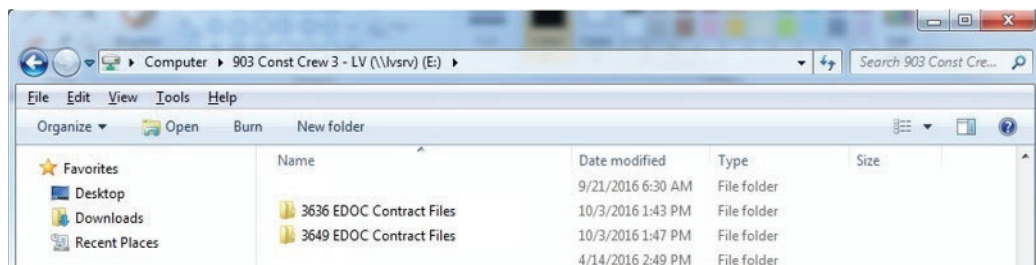

Figure 2-14: Rename EDOC Files Directory(ies)
13. Rename the EDOC Contract Files directory(ies) by entering the Contract ID at the beginning and remove the word *Copy* (if needed) (Figure 2-14).